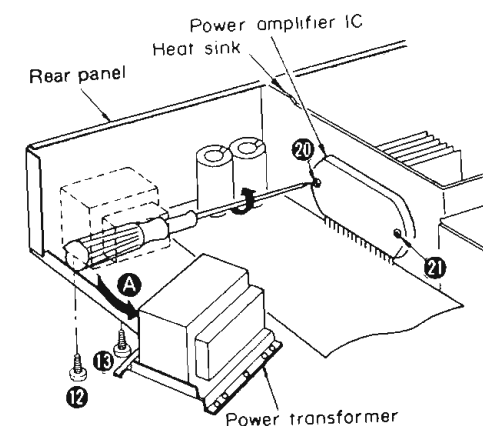

Fig. 4
2. Remove the 2 setscrews (Fig. 4: ⑳, ㉑) to detach the power transformer from rear panel in the direction of arrow A.
4. Remove the 2 setscrews (Fig. 4: ㉒, ㉓) used to secure the power amplifier IC on the heat sink, and then pull the power amplifier IC.